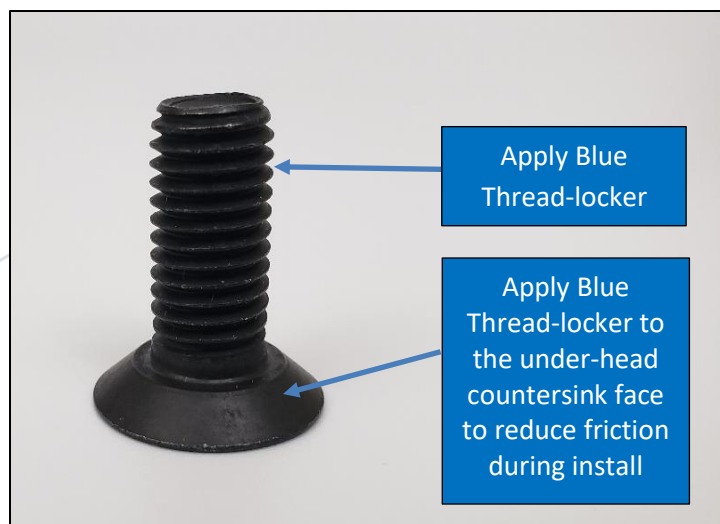

Figure 23: Countersink Bolts
- b. Apply blue thread-locker on the threads of the two T45 Torx countersink bolts (Figure 23 – see next page).
- c. Apply blue thread-locker on the tapered under-head of the T45 Torx bolts to reduce friction during assembly (Figure 23 – see next page).